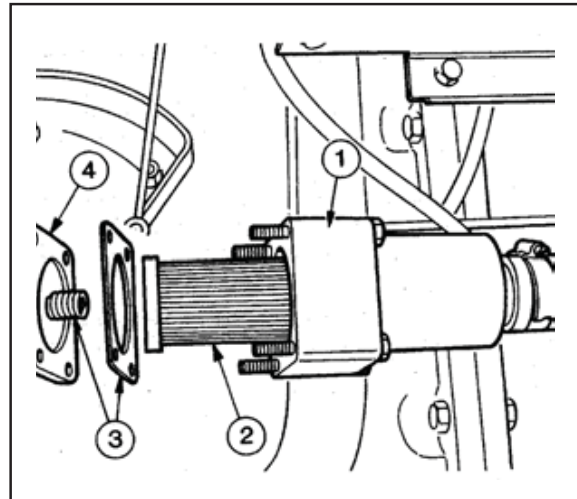

Fig.108
2. Remove the four nuts securing the cover plate to the strainer body (1, Fig. 108).
3. Remove the cover plate (4) which has a spring attached to the inside.
4. Pull out the strainer (2).
8. Check that the gasket (3) is in good condition otherwise fit a new one.